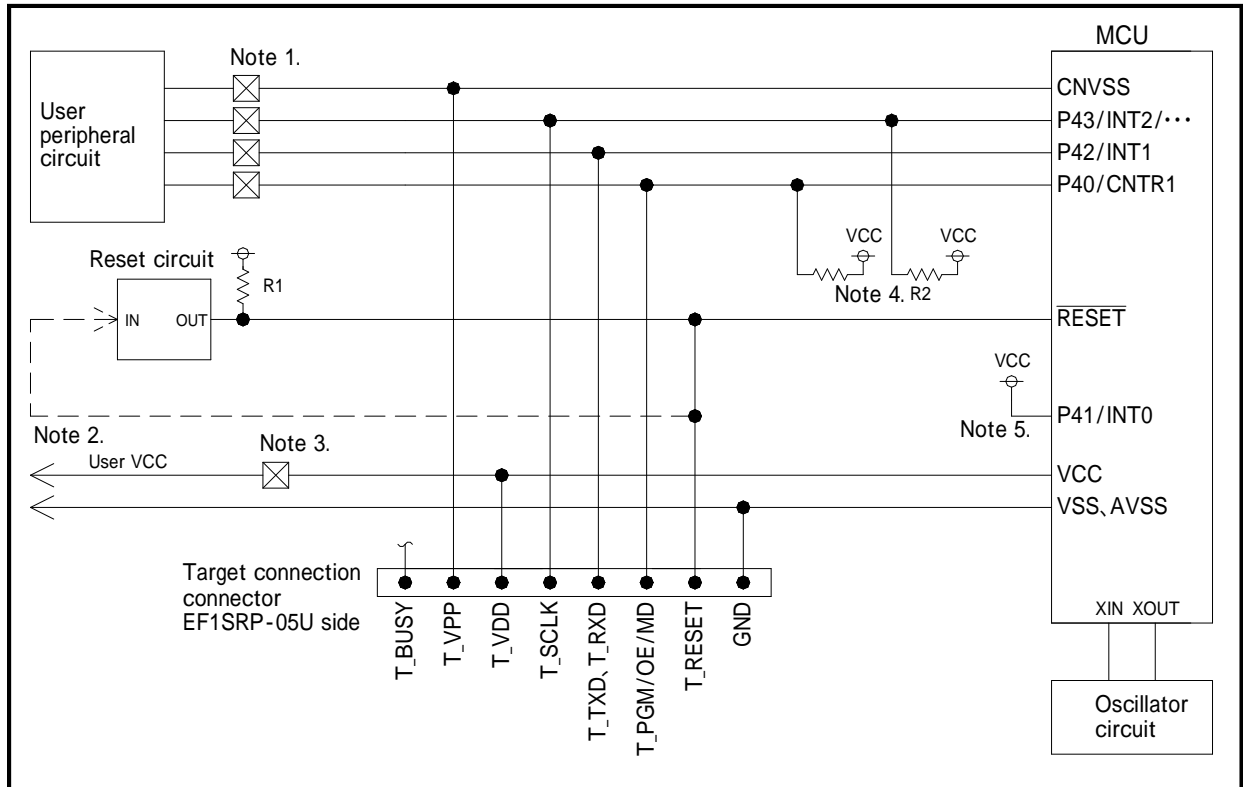

Fig 3.1: Target MCU peripheral circuit example
(1)An example of target MCU peripheral circuit when using the 3850/3858 groups is show in Fig 3.1.